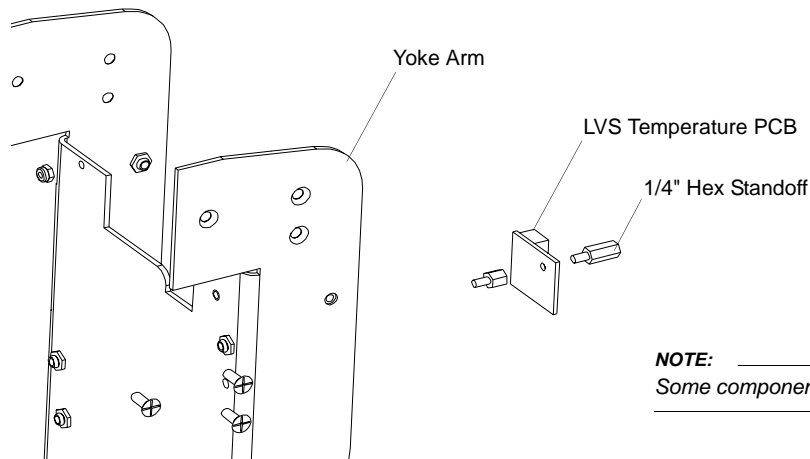

Figure 18: LVS Temperature PCB Replacement
- Step 4. As shown in Figure 18, remove one 1/4" hex standoff.